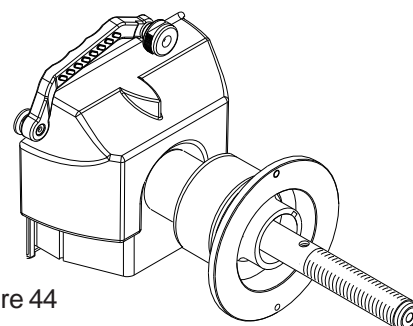

Figure 44
1. Make sure the SAPE arm is in the home position as shown in (Figure 44).
5. Display will read "**BAC**" "**H**" "**POS**" followed by a beep. Return the arm to the home position. Fig. 44.
8. Return the arm to the home position, Figure 44. The display will change to "**dIA**" "**42.1**" "**POS**".